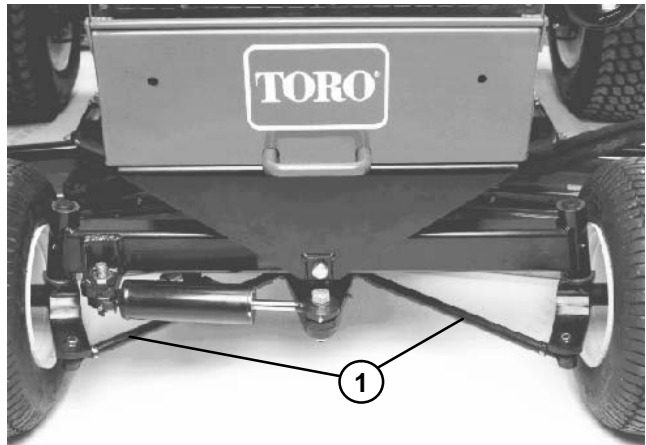

Figure 9
2. Loosen the jam nuts on both tie rods. Adjust both tie rods equally until center-to-center distance at front of rear wheels is 0–0.125 in. (0.0–3.0 mm) less than at the rear of the wheels (Fig. 9).